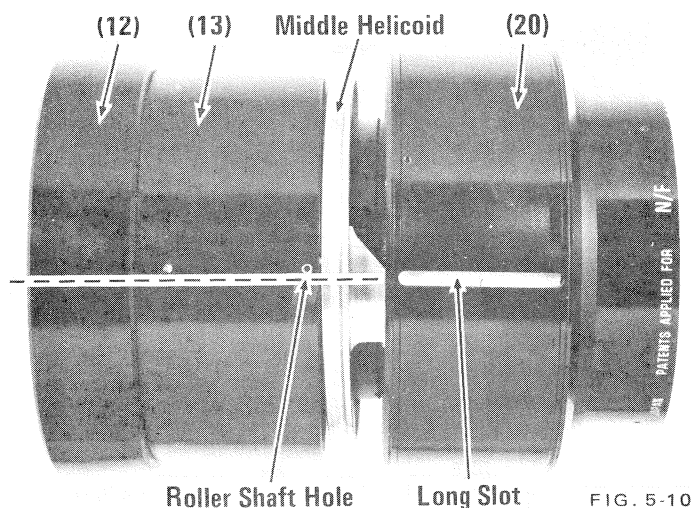

FIG. 5-10
- a) Assemble hood ring (12) to inner focusing ring (13). Fig. 5-10.
- b) Slide inner focusing ring over middle helicoid and between the control ring and the cam ring until the hood ring stops against the middle helicoid. Rotate hood ring-inner focusing ring until a roller shaft hole aligns with a long slot in the control ring. Fig. 5-10.